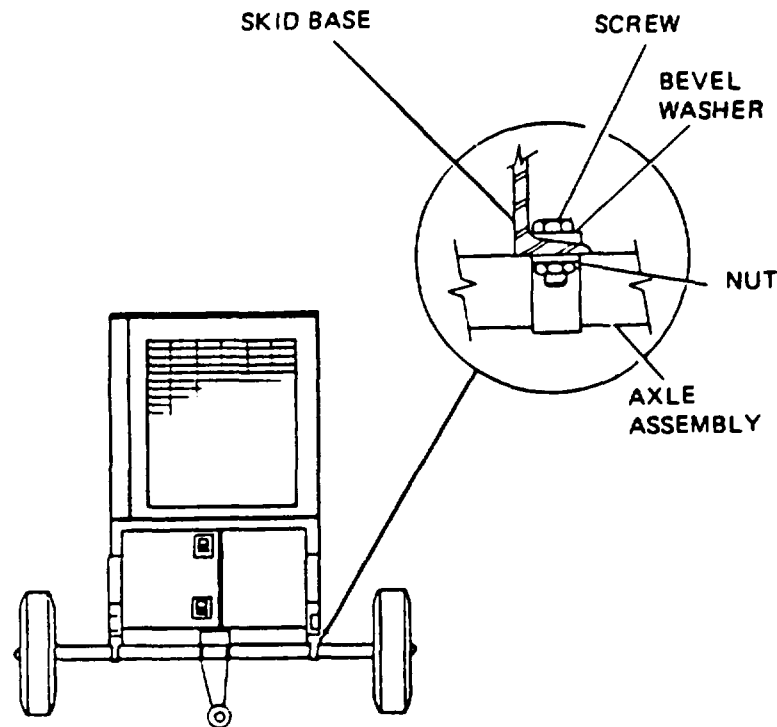

Figure 5-12. Wheel Mounting Kit Installation
- (1) Using suitable hoisting equipment, raise the generator set sufficiently to clear axle assemblies.
- (2) Position axle assemblies under generator set.
- (3) Lower the generator set until it is just touching axle assemblies.
- (4) Install attaching hardware as shown in figure 5-12.
- (5) Lower generator set until it is supported on the axle assemblies and remove hoisting equipment.